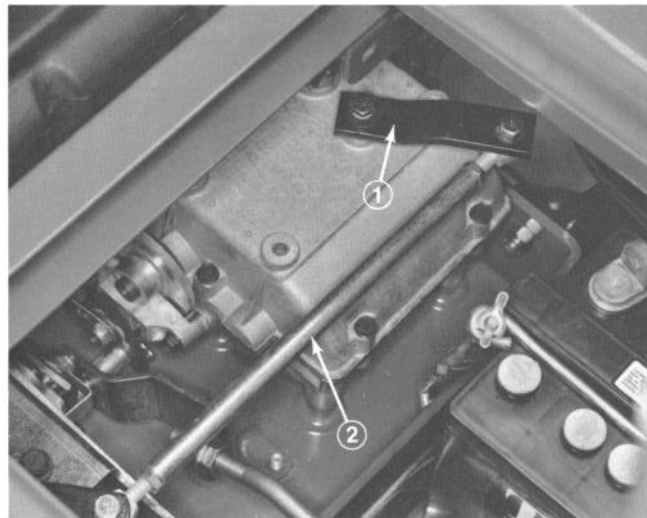

Figure 37
2. Remove capscrew securing end of tie rod to left transmission shift lever (Fig. 37).